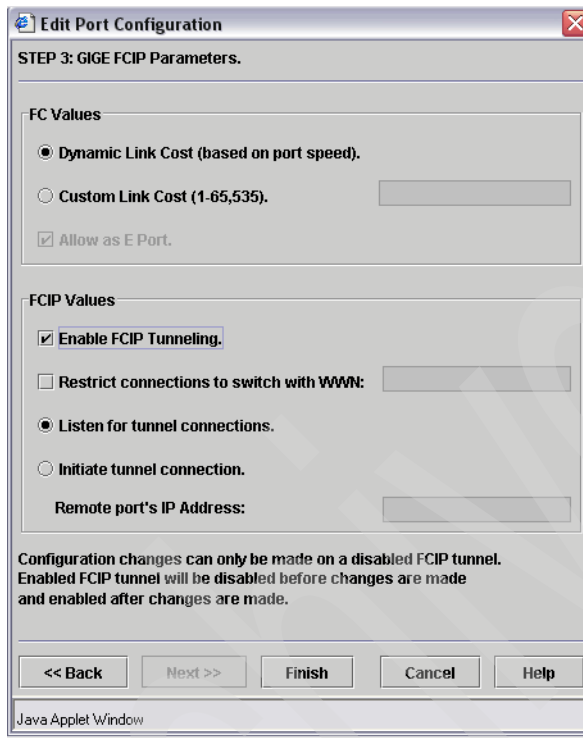

Figure 6-51 Remote router set to Listen for tunnel connections
- Now, set up the remote router in the same way, but remember it must be set to **Listen for tunnel connections** and not to Initiate tunnel connection, as shown in Figure 6-51.